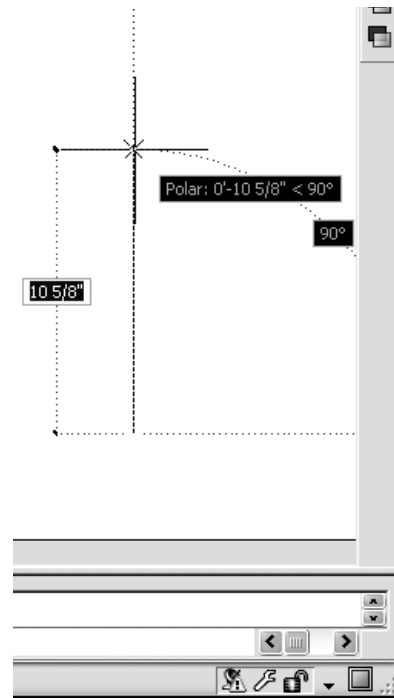

Figure 2-1.11 Drawing another line with the help of Polar Tracking
- Move the crosshairs (i.e., mouse) straight up from your first point so that *Polar Tracking* activates (Figure 2-1.11).